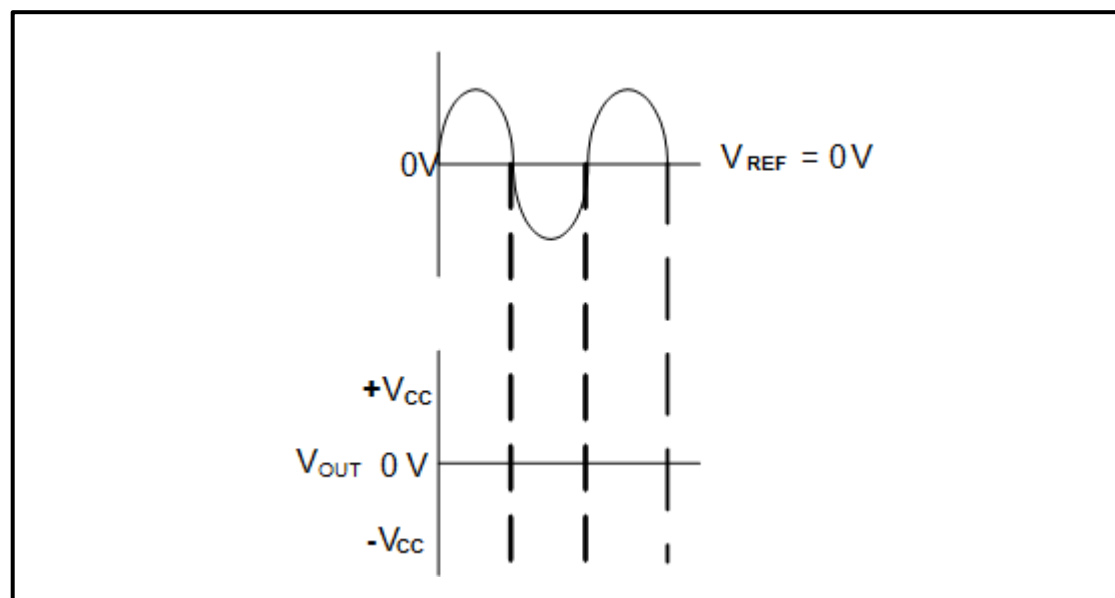

FIGURE 7.7: INPUT SIGNAL TO A NON-INVERTING COMPARATOR
- 7.7 FIGURE 7.7 below shows the input signal to a non-inverting comparator. The reference voltage is equal to zero. Draw the input signal and directly below that, on the same y-axis, draw the output signal. Label your answer.